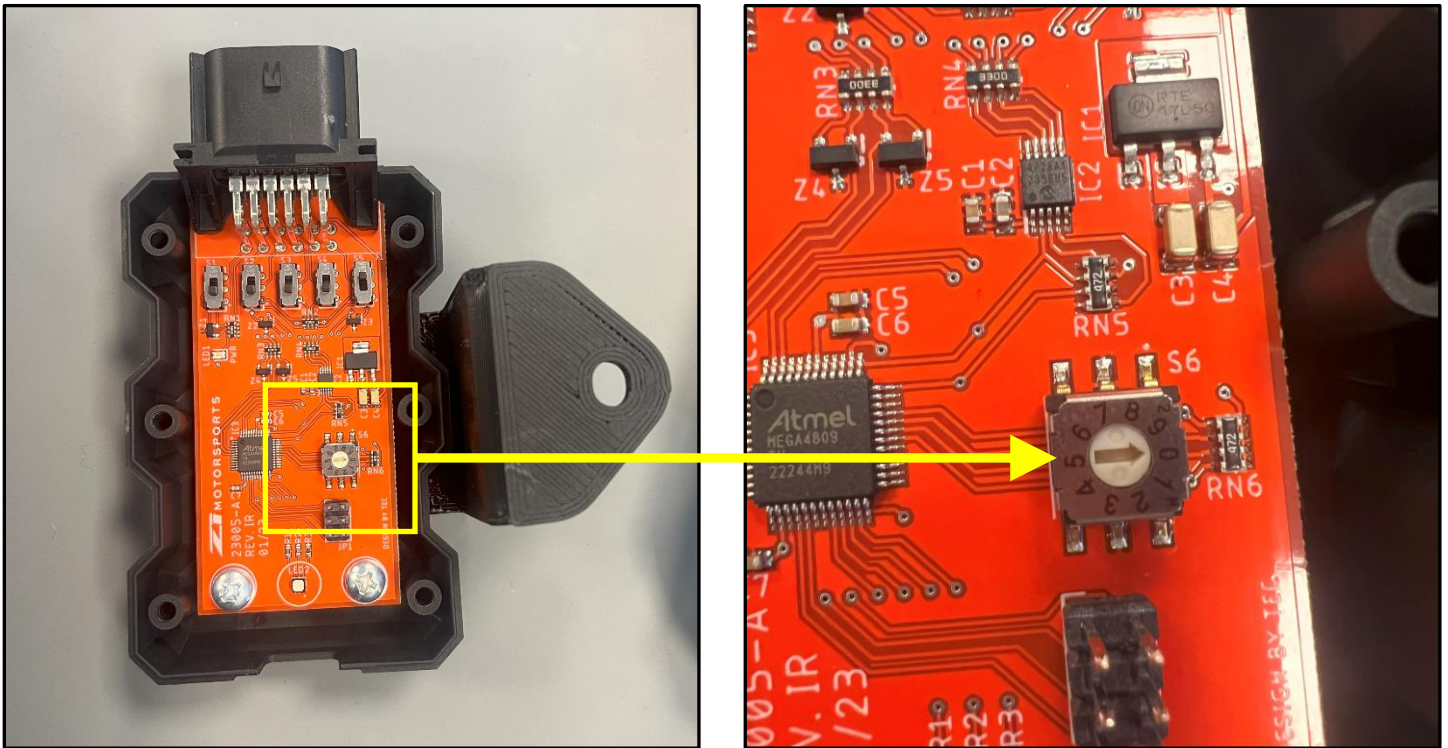

Figure 3
6. There is a Rotary Switch on the board inside the DISCO Box. You will need to pick between setting **0** or setting **1**. Using a tiny flat head screwdriver, rotate the rotary switch to the appropriate setting explained below. *Figure 3*.